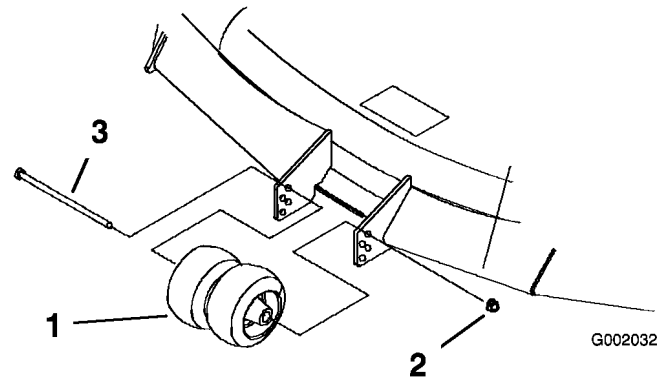

Figure 21
3. After adjusting the height-of-cut, remove the bolt and nut (Figure 21).
4. Select a hole so that the center rollers are positioned to the nearest corresponding height-of-cut desired (Figure 21).
5. Install the bolt, center rollers, and nut (Figure 21).